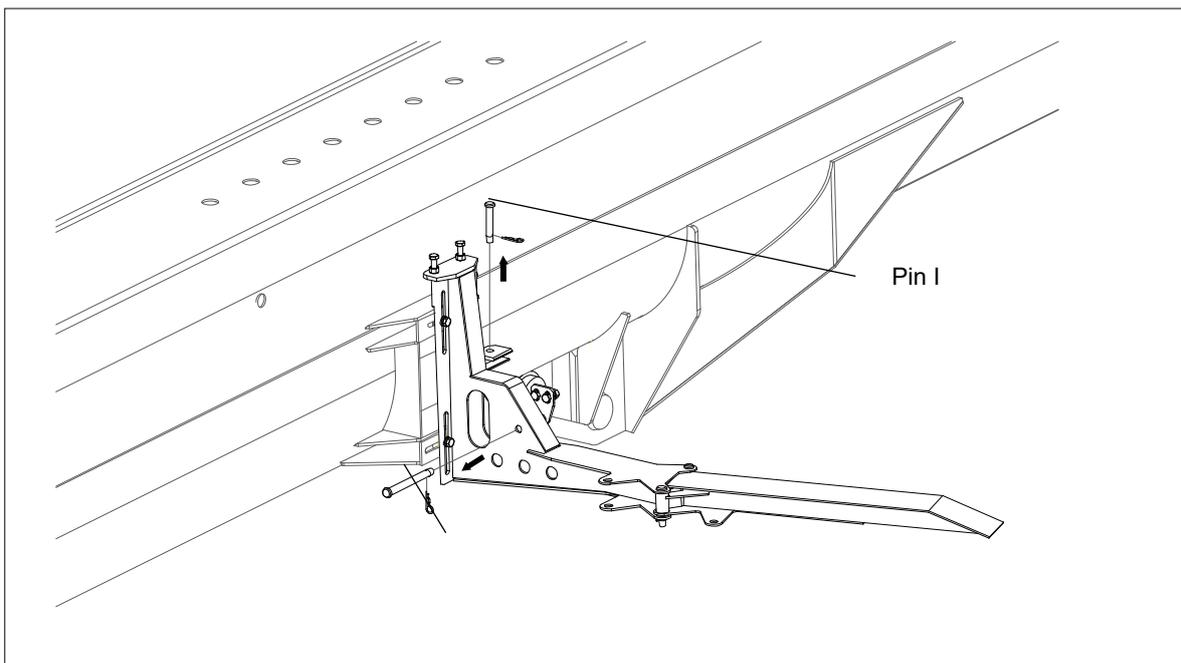

Figure 5-4 Pins I and II removal
- c) Remove the pins I and II. See Figure 5-4.